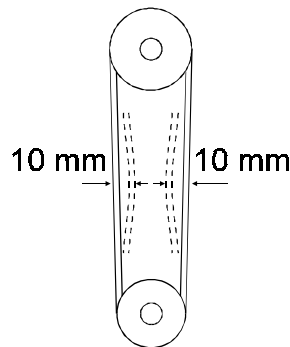

Fig. 6.2
Belt tension is correct when the two opposing strands of the belt can be pulled together by approx. 2 cm between thumb and forefinger (Fig. 6.2).
- Loosen belt retainer (8) and the two belt guides (16) and move outward.
- Install key (3) into the groove provided on the motor shaft (4).
- Slide belt pulley (5) onto the motor shaft (4) so as to make key (3) engage the groove in the belt pulley bore.
- Secure belt pulley (5) axially on the motor shaft by means of nut (6).
- Place the belt and tension correctly by means of the articulation (9) between base (10) and motor suspension (11) (see Fig. 6.2).
- Secure nut (6) by tightening securing screw (7).
- Align belt guard bottom part (1) according to the belt and secure by tightening screws (2).
- Slide belt retainer (8) towards the belt pulley (max. distance 3 mm) and tighten.